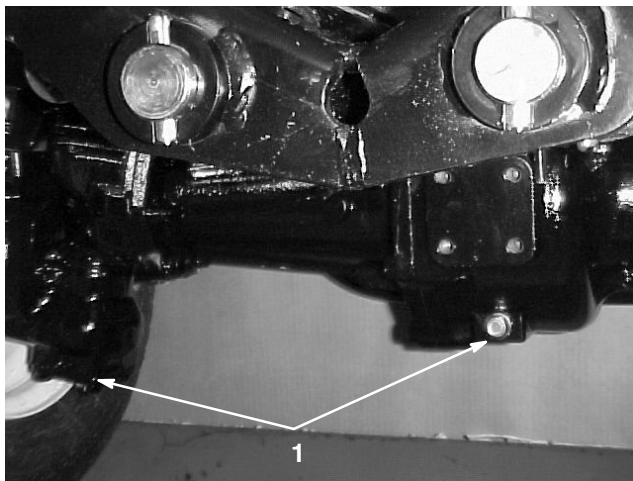

Figure 69
2. Clean the area around the 3 drain plugs, 1 on each end and 1 in the center (Fig. 69).